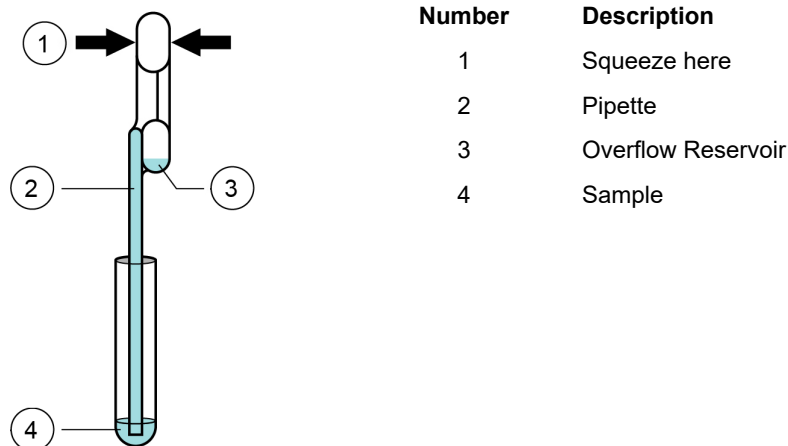

Figure 11. Transfer Pipette
9. Squeeze the top bulb of the transfer pipette completely until the top bulb is fully flat. While continuing to hold the bulb fully flat, place the pipette tip in the specimen transport tube. (see Figure 11).